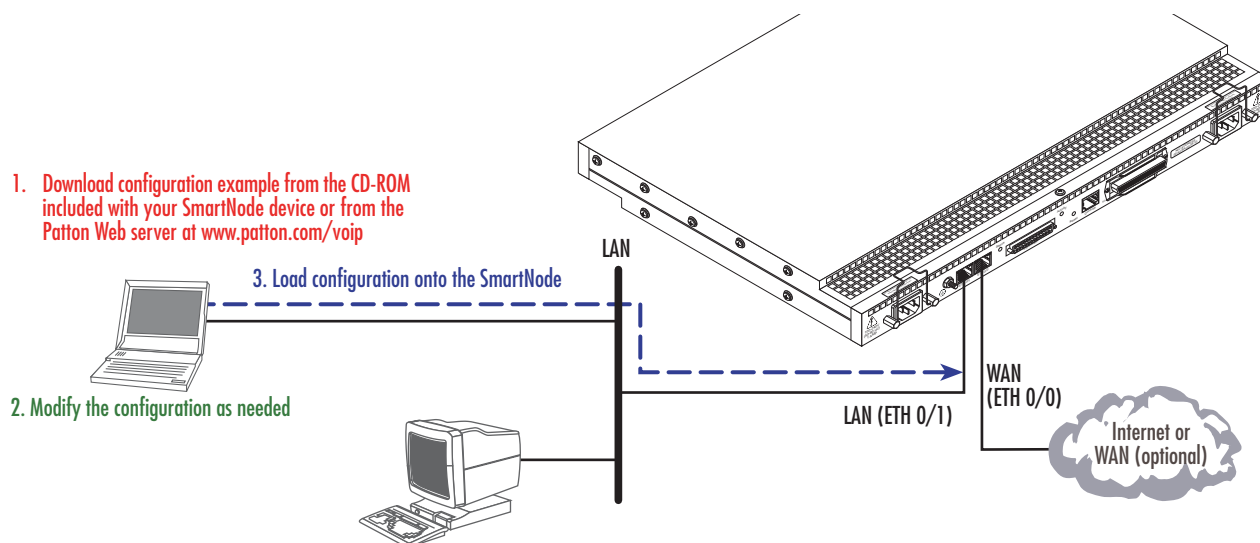

Figure 16. Loading the configuration
3. **Loading the configuration** (see figure 16). Refer to section “2. Connecting the SmartNode to the network” on page 41 for details.